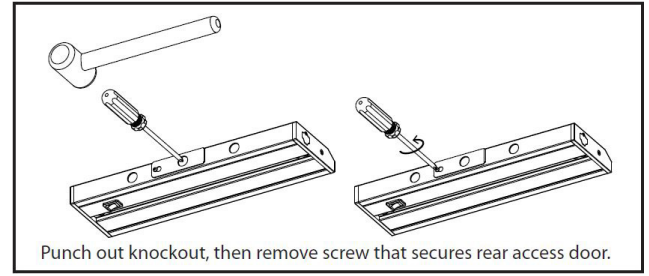

FIGURE 2
- B)** Remove knockout by using a hammer or punch. Use screwdriver to loosen the screws securing the rear access door. (Figure 2)